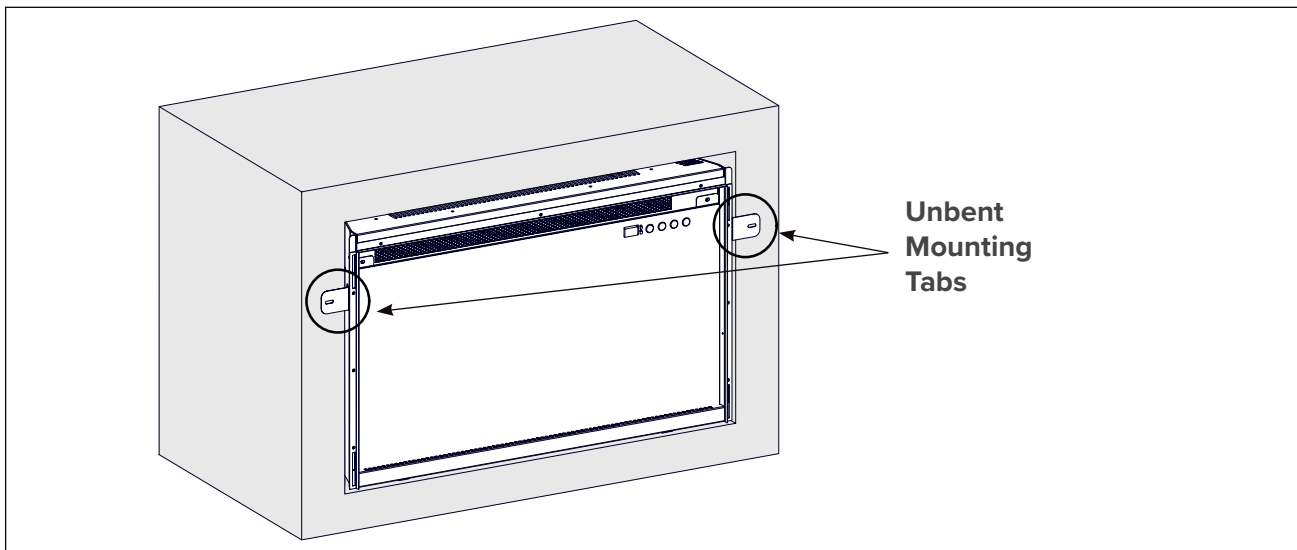

Fig. 2
- a. With the insert properly positioned, secure the unit to the existing fireplace structure using the screw mounting tabs located on each side of the unit. If necessary, these tabs can be unbent to allow for install into smaller openings as shown (**Fig. 2**).